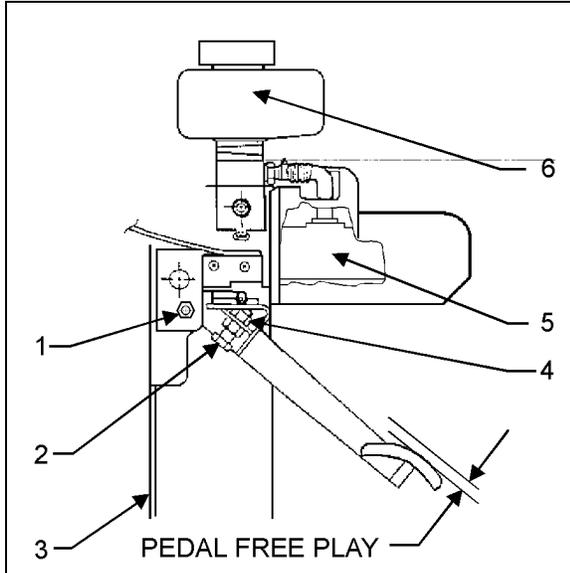

FIGURE 1: FREE PLAY ADJUSTMENT OEH3B716
| FIG. 1: FREE PLAY ADJUSTMENT | 02-3 |
1. Free play adjustment is made by loosening nut (1, Fig. 1) and moving bolt in slot. The pedal moves down allowing a 1/4" (6 mm) of **free play** before the master cylinder (5, Fig. 1) starts to move.
2. Keep this adjustment by tightening nut (1, Fig. 1).
4. Loosen the adjustment bolt (2, Fig. 1) until it touches the pedal wall support (3, Fig. 1).
- Loosen the adjustment bolt (2, Fig. 1) for another 1-1/2 turn. Lock in position by tightening nut (4, Fig. 1).